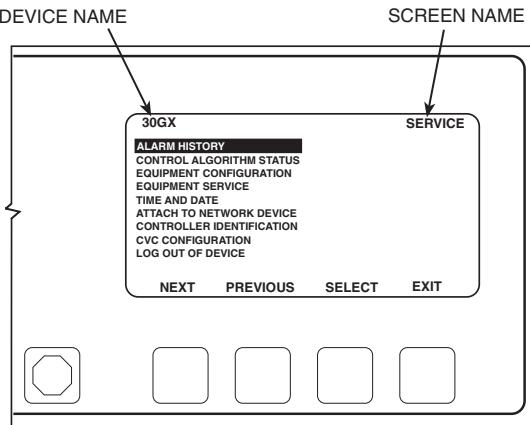

Fig. 14 — Remote Enhanced Display Service Screen, 30GX,HX Units
- When not in the default screen, the upper right-hand corner of the remote enhanced display always displays the name of the screen that you have entered (Fig. 14).